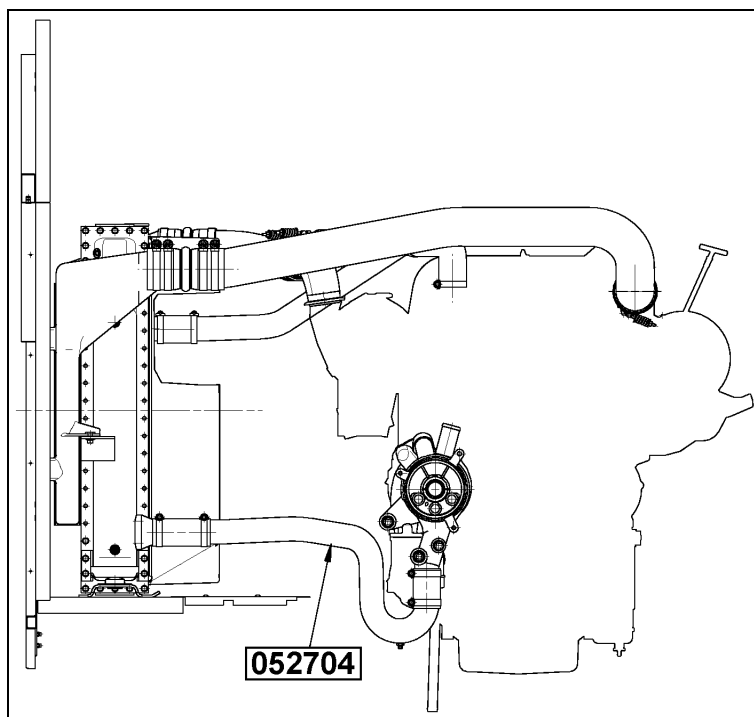

FIGURE 10: ENGINE TO RADIATOR WATER PUMP PIPE LOCATION
29. Install engine to radiator water pump pipe (052704) (Refer to figure 10).